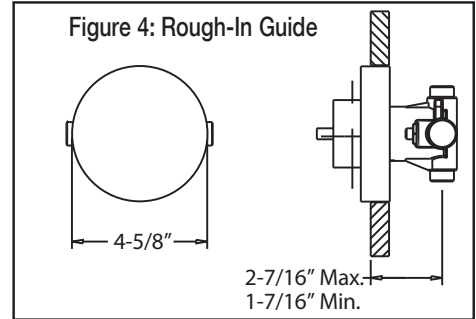

Figure 4: Rough-In Guide
- When piping installation is complete and before doing the finished wall, slide rough-in guide onto the mixer stem and press it into place (see Figure 4).